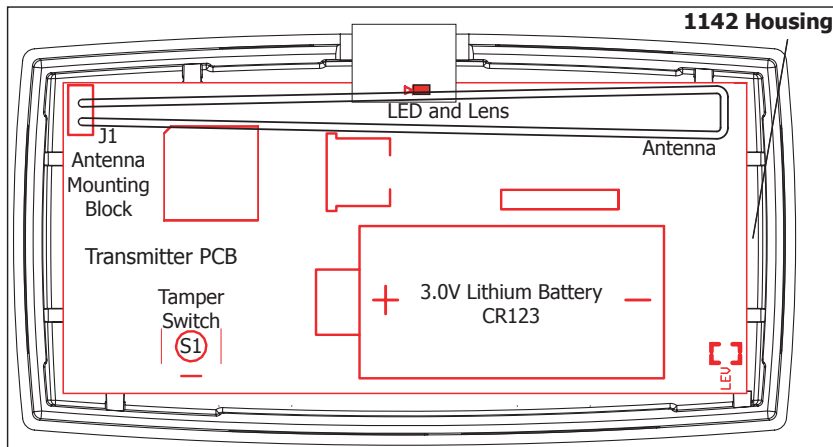

Figure 5: 1142 Transmitter PCB and Battery
3. Place the 3.0V lithium battery in the holder and press into place. See Figure 5 for Battery location.